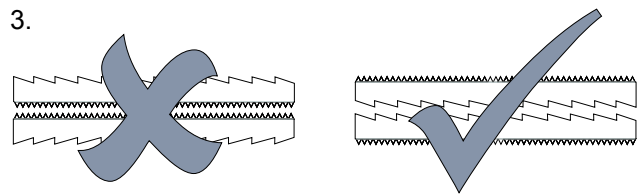

Fig.122: Double locking ring
- 3.a. Fit both MF16 nuts with **new** (double) locking rings on the connecting rod bolts {see Figure 122, Page 52 }for the mounting position of the double locking rings} and tighten to the torque given in table "Survey of torques for bolts and nuts Grasso 10".